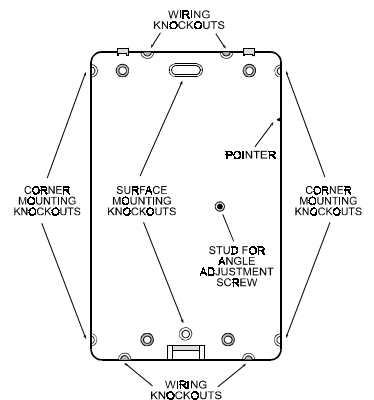

Figure 4. Knockout Locations
- Punch out the appropriate mounting knockouts and wiring knockouts in the base (Fig. 4). The round knockout at the bottom and the elongated knockout at the top of the base plate serve for surface mounting. The knockouts at the angled sides are provided for corner mounting.